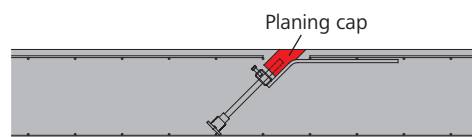

Fig. 16.1
1. Remove the planing cap after pouring (Fig. 16.1).